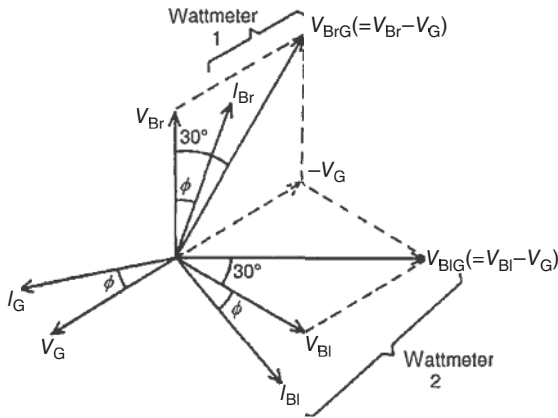

Figure 23.16
- (b) The phasor diagram for the two-wattmeter method for a balanced load having a lagging current is shown in Fig. 23.16, where $V_{BrG} = V_{Br} - V_G$ and $V_{BI G} = V_{BI} - V_G$ (phasorially).